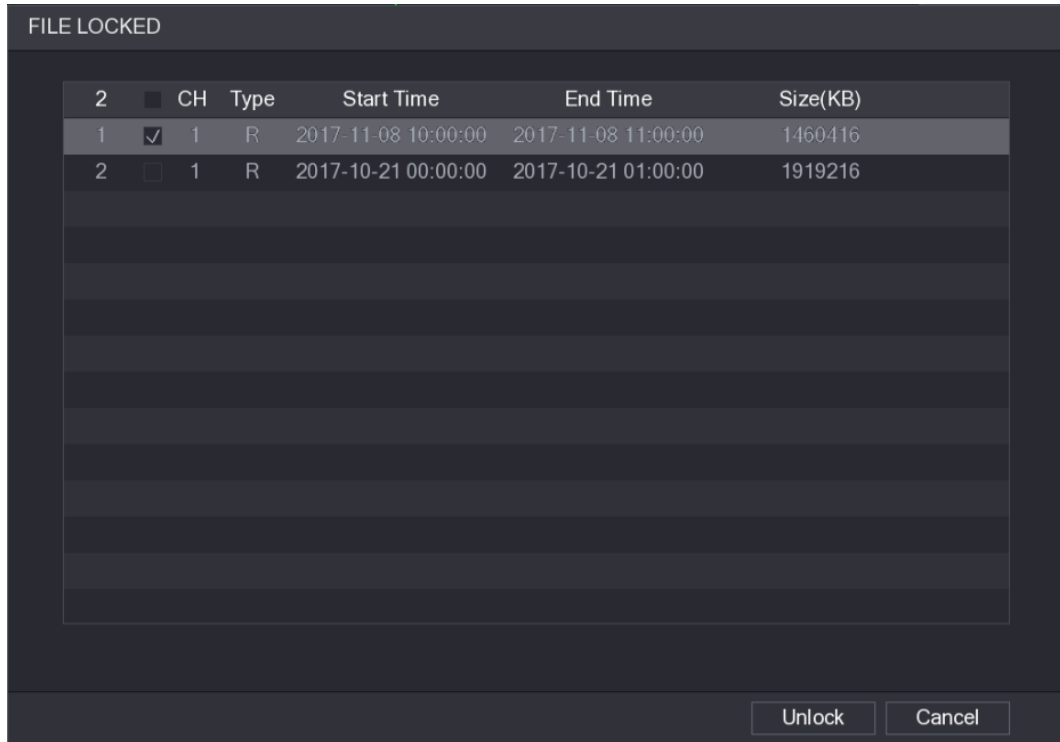

Figure 5-116
- To unlock the recorded video, in the **FILE LOCKED** interface, select the video, and then click **Unlock**. See Figure 5-116.